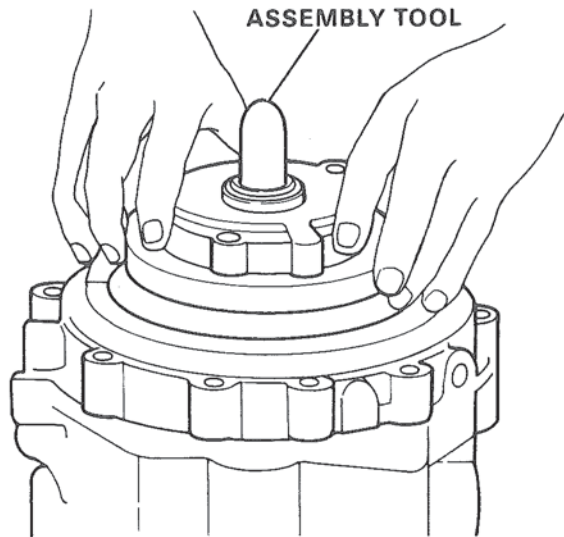

Figure 110. Mounting Front Pump.
1. Place assembled transmission on rear face of coupling in upright position. Figure 110. Inspect upper exposed adapter face for dirt and obstructions, then lubricate and install front pump gasket.